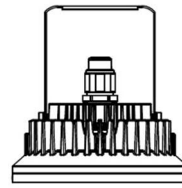

Figure 5
- ☞ Position the bracket holders and fix it by means of the provided M8 screws, 61.0 kgf-cm. (Figure 5)